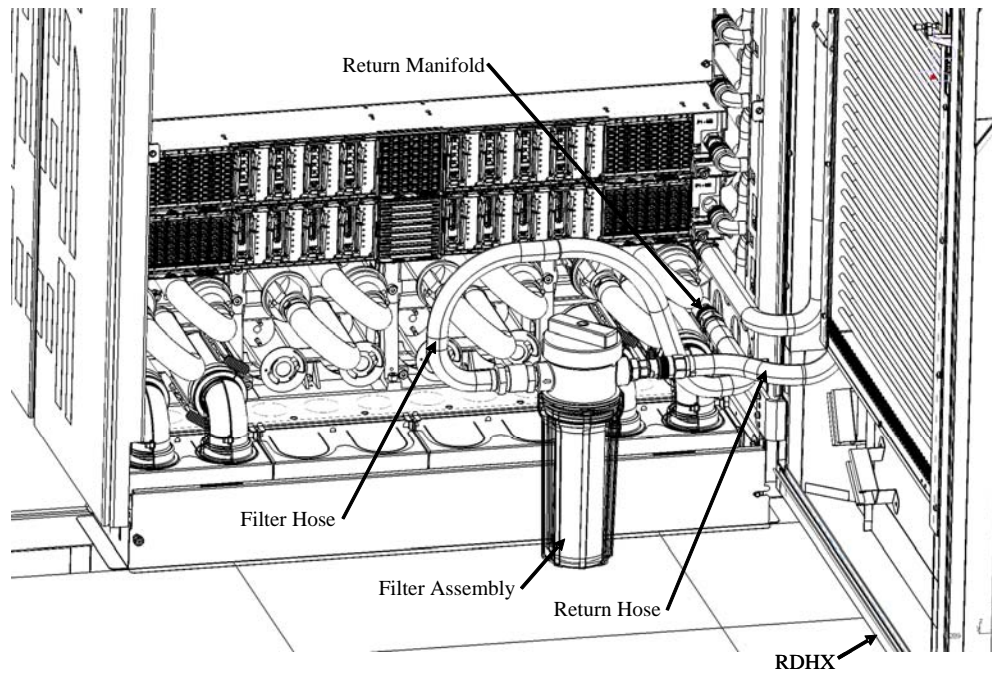

Figure 7 Filter Assembly connected to the system
4. Connect the return hose from the RDHX to the plug on the filter assembly. Then connect the filter assembly hose to the return manifold (lower manifold) (see Figure 7).